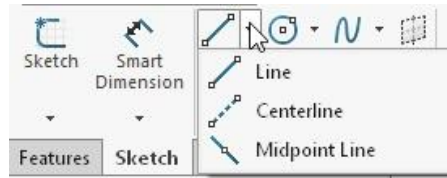

Figure 2-20 *The Line flyout*
1. Click on the down arrow next to the **Line** tool; the **Line** flyout is displayed, refer to Figure 2-20.